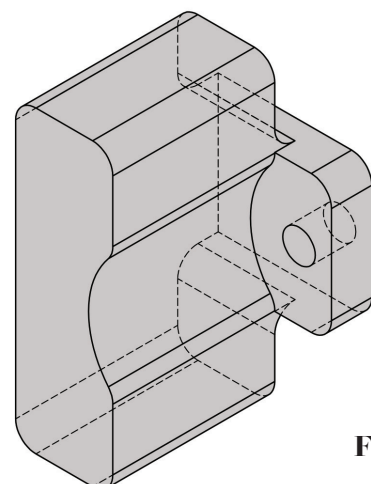

FIG 25.
- Once the sliding door track has been fitted and held in place, the wall anchor blocks can be moved into position towards the wall (FIG 25).